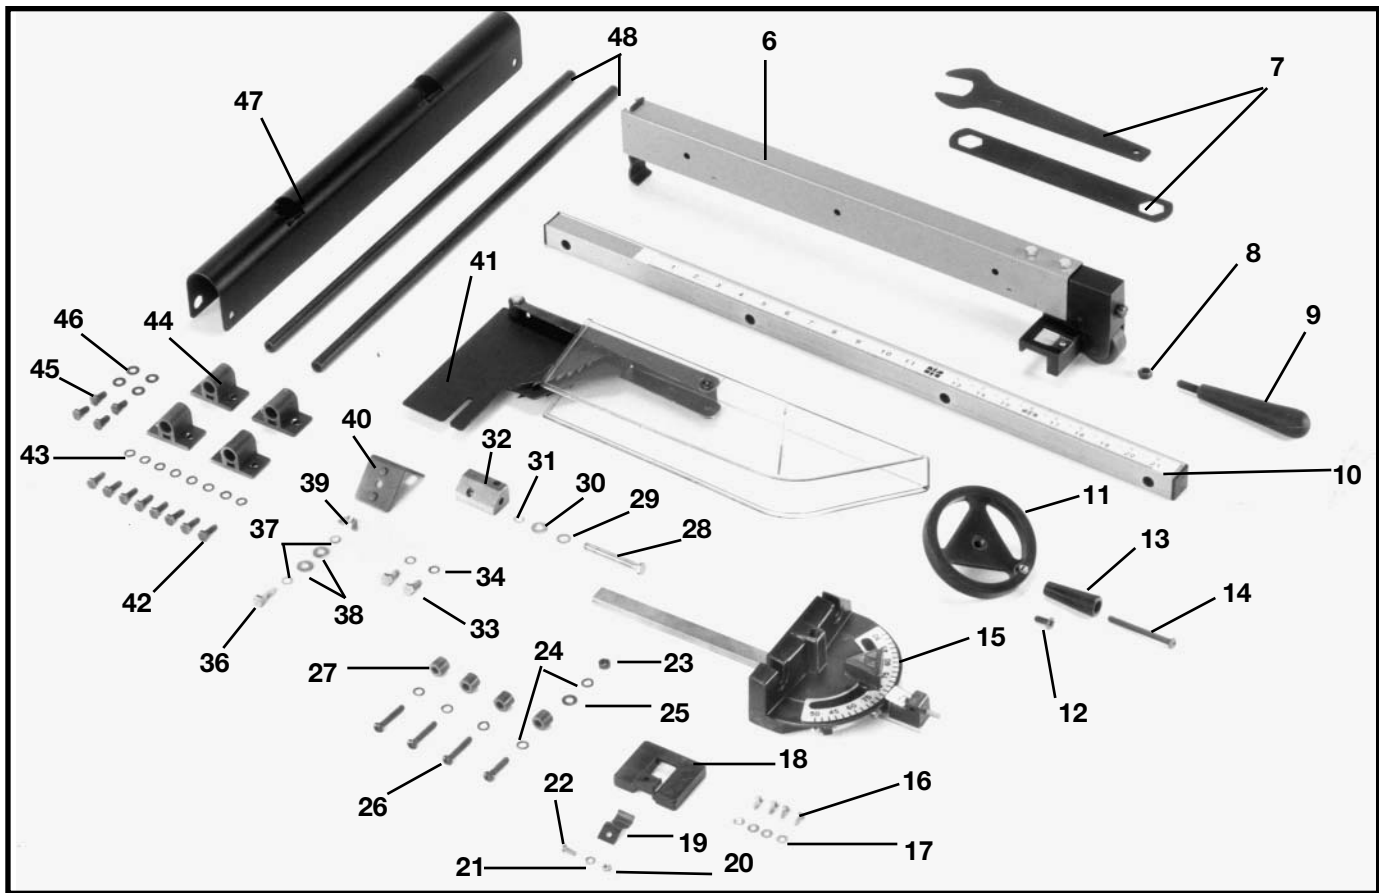
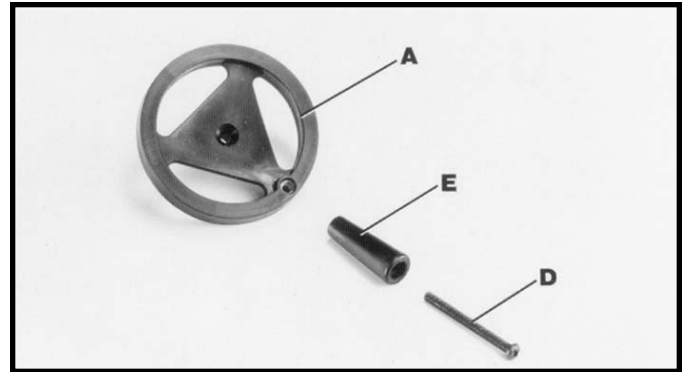

Fig. 3
Fig. 5
1. Insert M6 x 55mm cheese head screw (14) Fig. 3, through handle (E) Fig. 5 and assemble handle (E) to handwheel (A) by threading screw (D) Fig. 5 clockwise into handwheel.